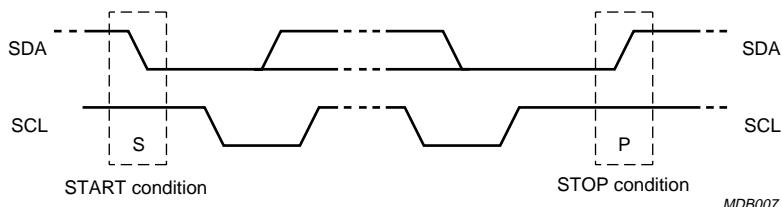

Fig.7 START and STOP conditions on the I²C-bus.
Both data and clock lines remain HIGH when the bus is not busy. A HIGH-to-LOW transition of the data line, while the clock is HIGH is defined as the START condition (S). A LOW-to-HIGH transition of the data line while the clock is HIGH is defined as the STOP condition (P) (see Fig.7).